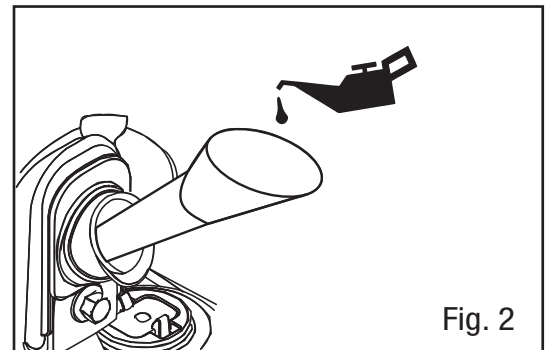
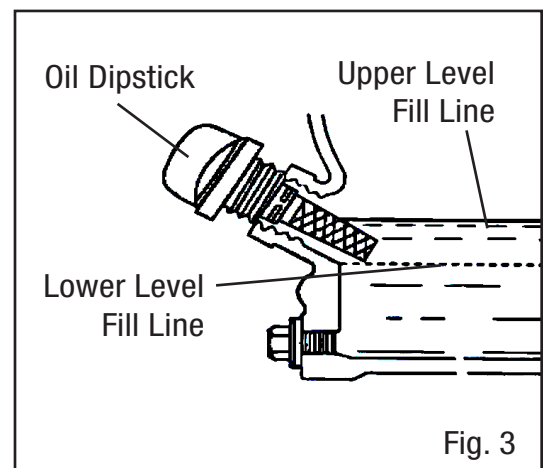

Fig. 2
Fig. 3
3. Using an oil funnel or appropriate dispenser, slowly add oil into the oil fill (Fig. 2), being careful not to overfill the unit. Fill the crank case to the upper fill line so you can visually see the oil coming halfway up the oil fill threads (Fig. 3).